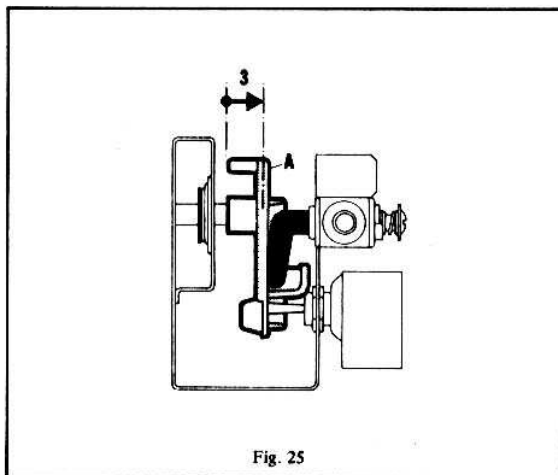

Fig. 25
3. Pull the driving disc "A" outwards (Fig. 25).